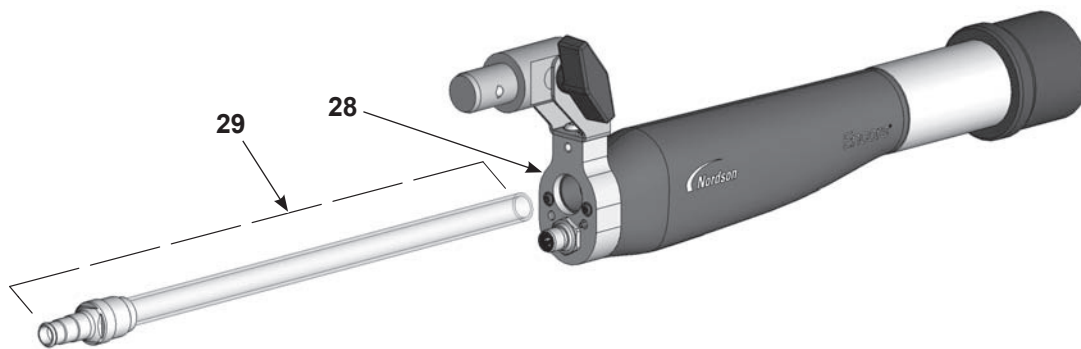

Figure 15 Powder Tube Replacement
19. See Figure 15. Install the powder tube (22) into the adapter (30) with a twisting motion to insert the tube past the internal O-ring until it is fully seated.